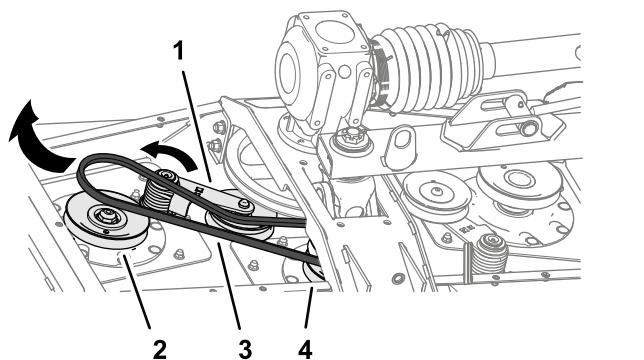

Figure 66
- Use a breaker bar or similar tool to rotate the belt tensioner for the short belt counterclockwise and slip the belt off the tensioner pulley (Figure 66).